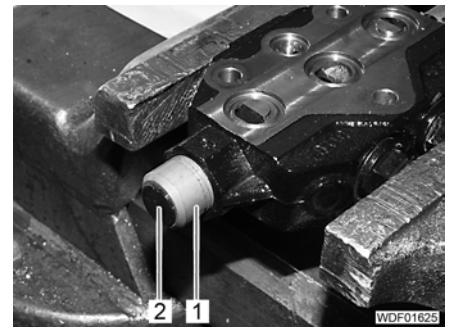

Fig. 241 Fastening of the control piston
- Remove plug (Fig. 241,2) from the control piston (Fig. 241,1) using a suitable aid (e.g. knife).